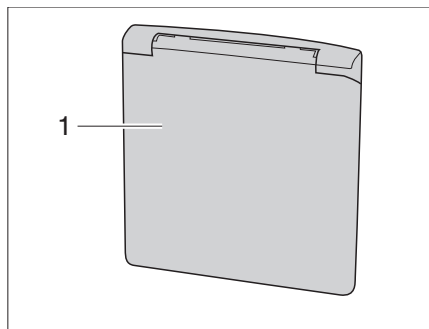

Fig. 4 Flap for 230 V connection
- Grip the external flap (Fig. 4,1) at the bottom and lift it upwards.